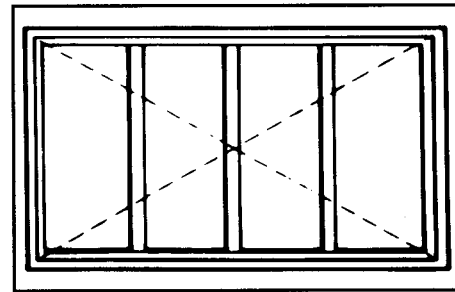

FIGURE 2
3. Diagonal measurements must be within 1/8" of being equal before fastening top of frame (**Figure 2**). A frame out of square can result in door sag.